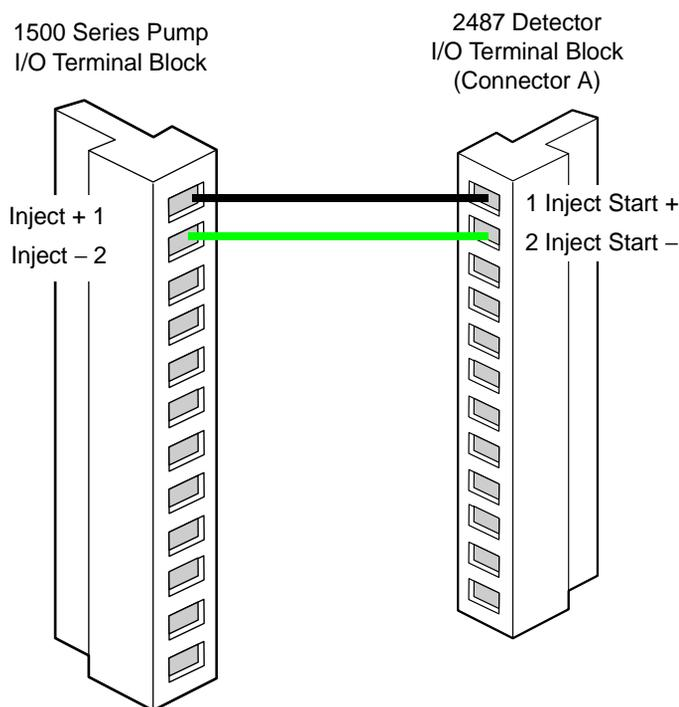
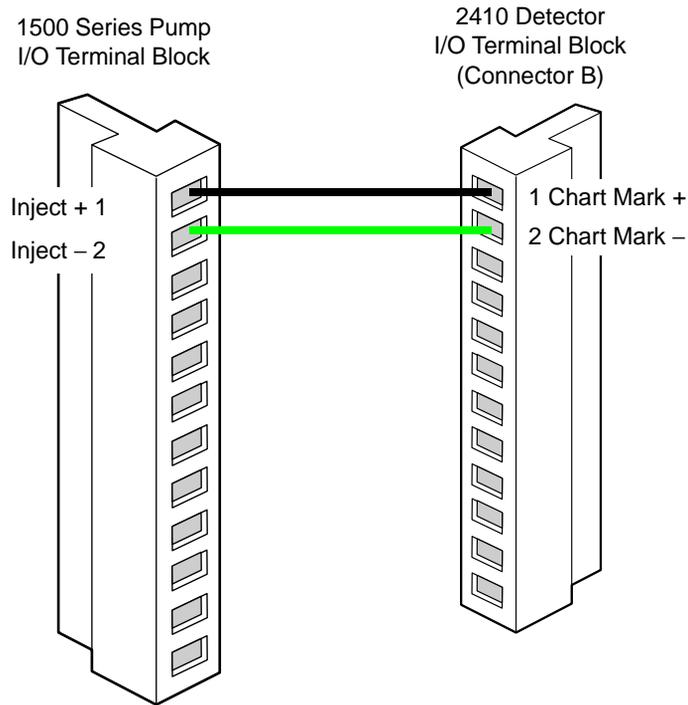

Figure 2-3 Inject Start Connection to a 2487 Detector
Figure 2-4 Inject Start Connection to a 2410 Detector
5. Remove the terminal block from Connector A on the back of the 2487 (Figure 2-3) or 2410 detector (Figure 2-4).
Figure 2-3 shows the Inject Start connection from the I/O terminal block on a 1500 Series Pump to Connector A on a Waters 2487 Detector.
Figure 2-4 shows the Inject Start connection from the I/O terminal block on a 1500 Series Pump to Connector B on a Waters 2410 Detector.